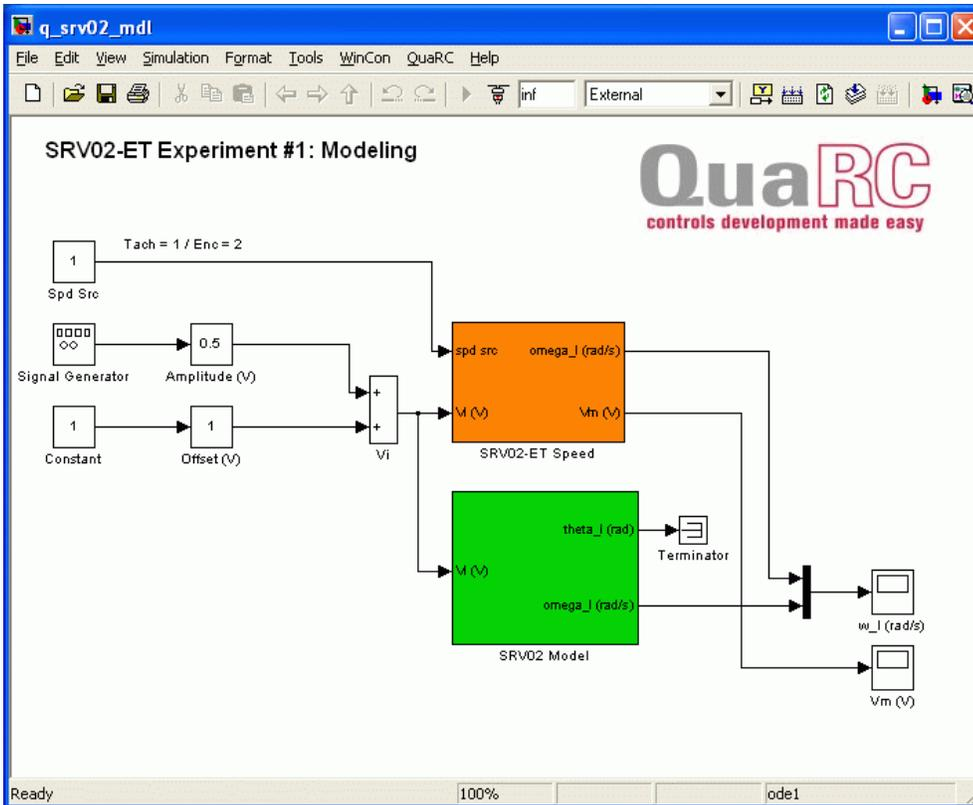

Figure 5: *q_srv02 mdl* Simulink diagram used to model SRV02.
The *q_srv02 mdl* Simulink diagram shown in Figure 5 is used to perform the modeling exercises in this laboratory. The *SRV02-ET* subsystem contains QuaRC blocks that interface with the DC motor and sensors of the SRV02 system, as discussed in Reference [6]. The *SRV02 Model* uses a Transfer Fcn block from the Simulink library to simulate the SRV02 system. Thus both the measured and simulated load shaft speed can be monitored simultaneously given the set open-loop input voltage.
4. Double-click on the *q_srv02_mdl.mdl* file to open the Simulink diagram shown in Figure 5.
5. **Configure DAQ:** Double-click on the HIL Initialize block in the Simulink diagram and ensure it is configured for the DAQ device that is installed in your system. For instance, the block shown in Figure 5 is setup for the Quanser Q8 hardware-in-the-loop board. See Reference [6] for more information on configuring the HIL Initialize block.
6. **Configure Sensor:** The speed of the load shaft can be measured using various sensors. Set the *Spd Src* Source block in *q_srv02_mdl*, as shown in Figure 5, as follows: